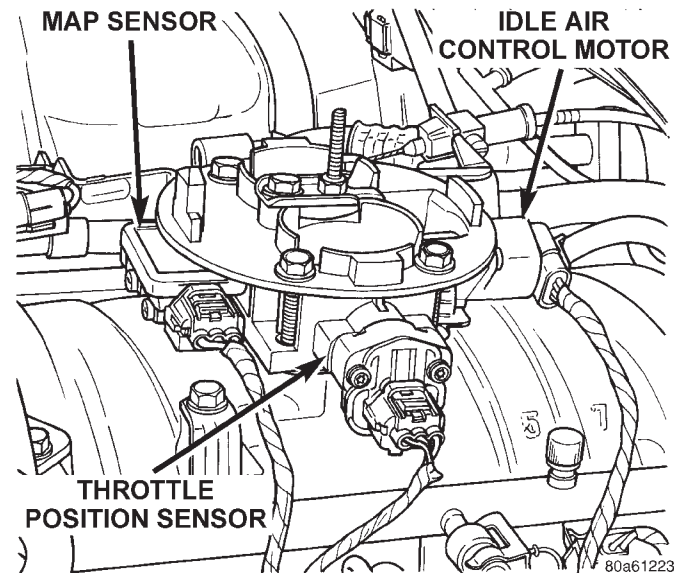

Fig. 64 Sensor Electrical Connectors—5.2L/5.9L Engines—Typical
- (1) Remove the air duct at throttle body.
- (2) Disconnect throttle body electrical connectors at MAP sensor, IAC motor and TPS (Fig. 64).